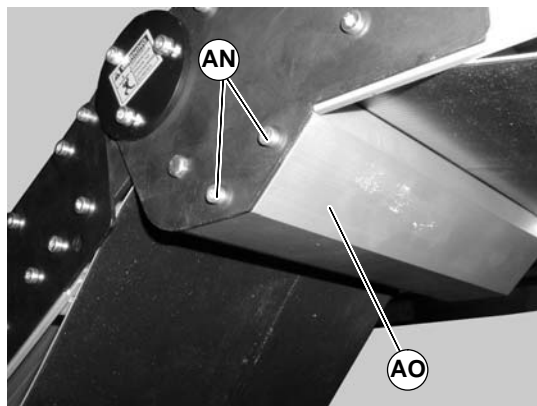

Figure 18
3. Remove screws (AN of Figure 18) on both sides of knuckle and remove guard (AO).